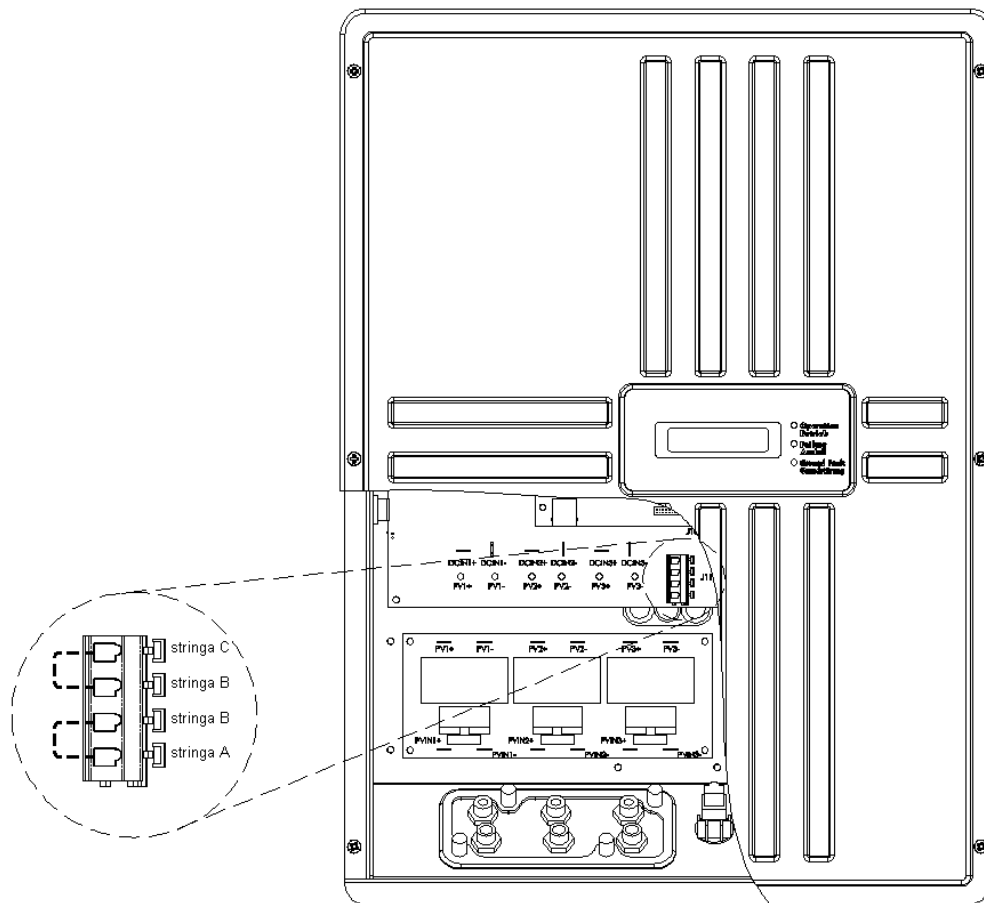

Fig 4.2.1 Master/Slave Mode Wirings
Through the Flexible connection of PV Strings feature, the ISMG inverters may manage the PV strings in either the independent mode or the master/slave mode or both. The ISMG inverter is designed to support up to three independent PV strings. If each PV string is exposed and obtains the sun light enough to generate DC power and the DC voltages are different, then it is prefer to select independent mode that each PV string is tracked by its own MPPT. If any two or all three PV strings may be able to get same intensity of the sunshine and generate the same DC voltage, users can then, through the internal jumper (see Figure 4.2.1), select the Master/Slave mode that any two PV or all three PV strings can be connected in parallel internally. Through this feature, users can obtain a better efficient way of utilizing the solar energy during the weak sunshine. As shown in the Figure 4.2.1, if a jumper is placed between string A and B, the PV string A and B will be connected in parallel internally. If all three PV strings are requested to connect in parallel, it needs two jumpers that shall be placed between A and B as well as B and C. For the models of ISMG150DE and ISMG145DE, there are only two (2) strings, string A and C, supported. Two jumpers, placed between A and B as well as B and C, are needed to put string A and C in parallel. The jumper shall be made of the wire with cross section of  $2.5 \text{ mm}^2$ .